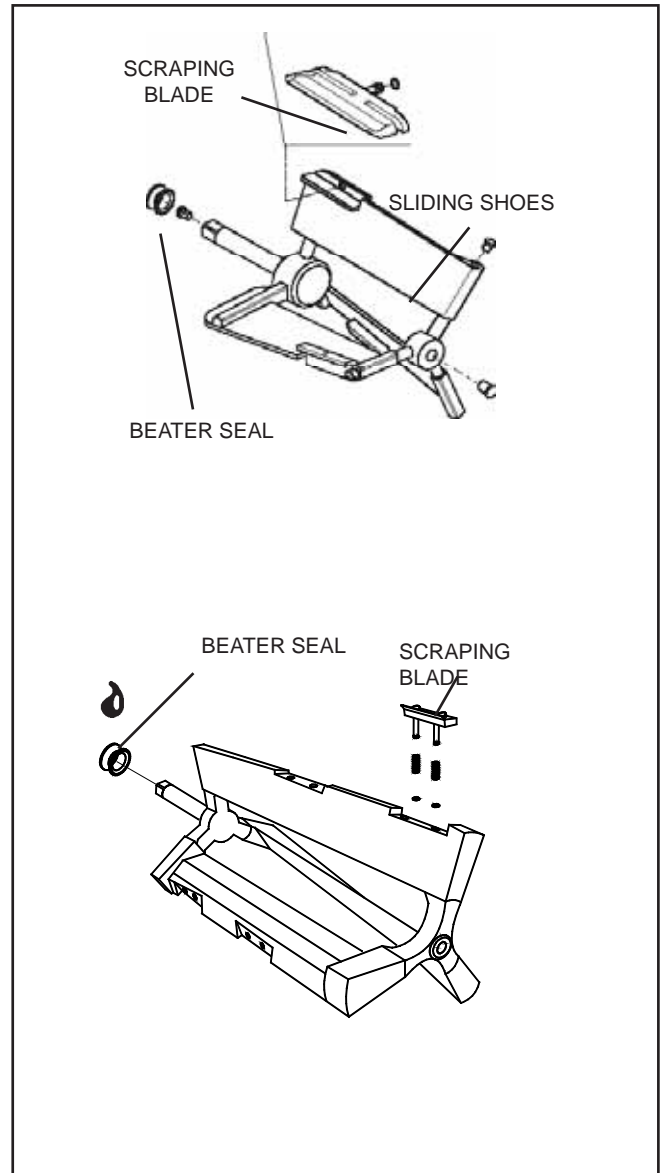

Figure 20
- Lubricate the beater lip seal with the lubricant included in the Start-Up Kit and mount it (ref Fig. 20).